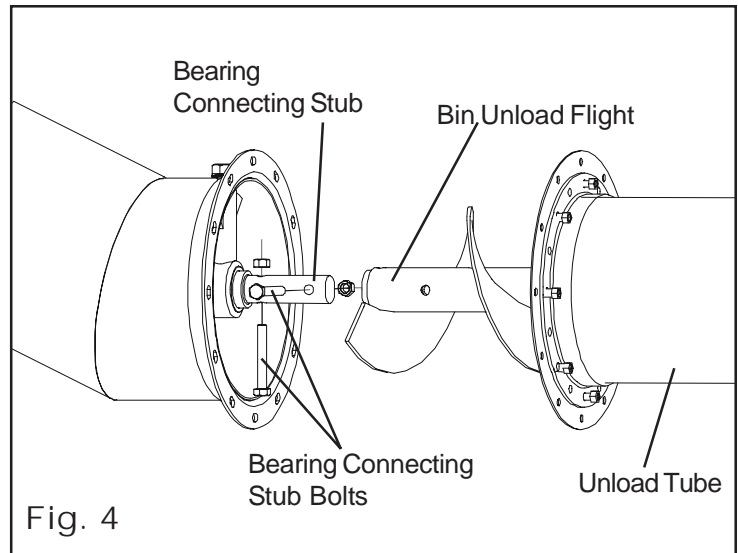

Fig. 4
- A. Pull bin unload flight out of unload tube approximately one (1) foot.
- E. With holes aligned secure with Bearing Connecting Stub Bolts and Nuts that were removed in step 4-B. (See Figure 4)